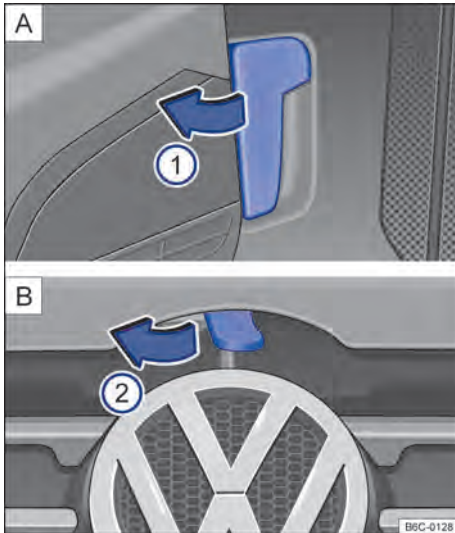

Fig. 181 [A] Bonnet release lever on the driver side footwell. [B] Bonnet release lever on the inner side of the bonnet.
- Ensure that the windscreen wiper arms are positioned on the windscreen before opening the bonnet → ①.
- Open the driver door and pull the release lever in the direction indicated by the arrow → Fig. 181 [A] ①. The bonnet is released from its lock by a spring mechanism → ⚠.
- To fully open the bonnet raise it slightly and at the same time press the release lever on the inner side of the bonnet in the direction indicated by the arrow → Fig. 181 [B] ②.